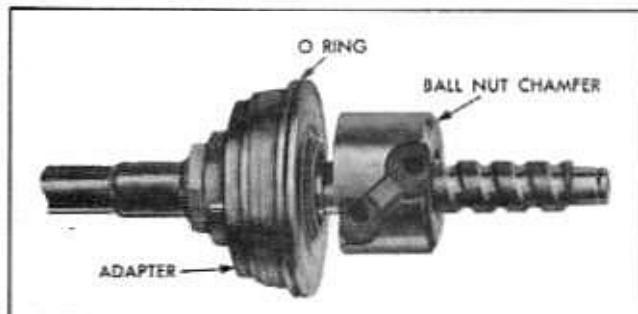

Fig. 9-48 Shaft, Ball Nut and Adapter Assembly
2. Lubricate adapter seal and "O" ring and install on adapter. Install seal, retaining washer and spiral retaining ring. Assemble adapter to worm being careful not to damage seal when passing over worm grooves. Slide ball nut over worm up to adapter with chamfered edge away from adapter (Fig. 9-48).